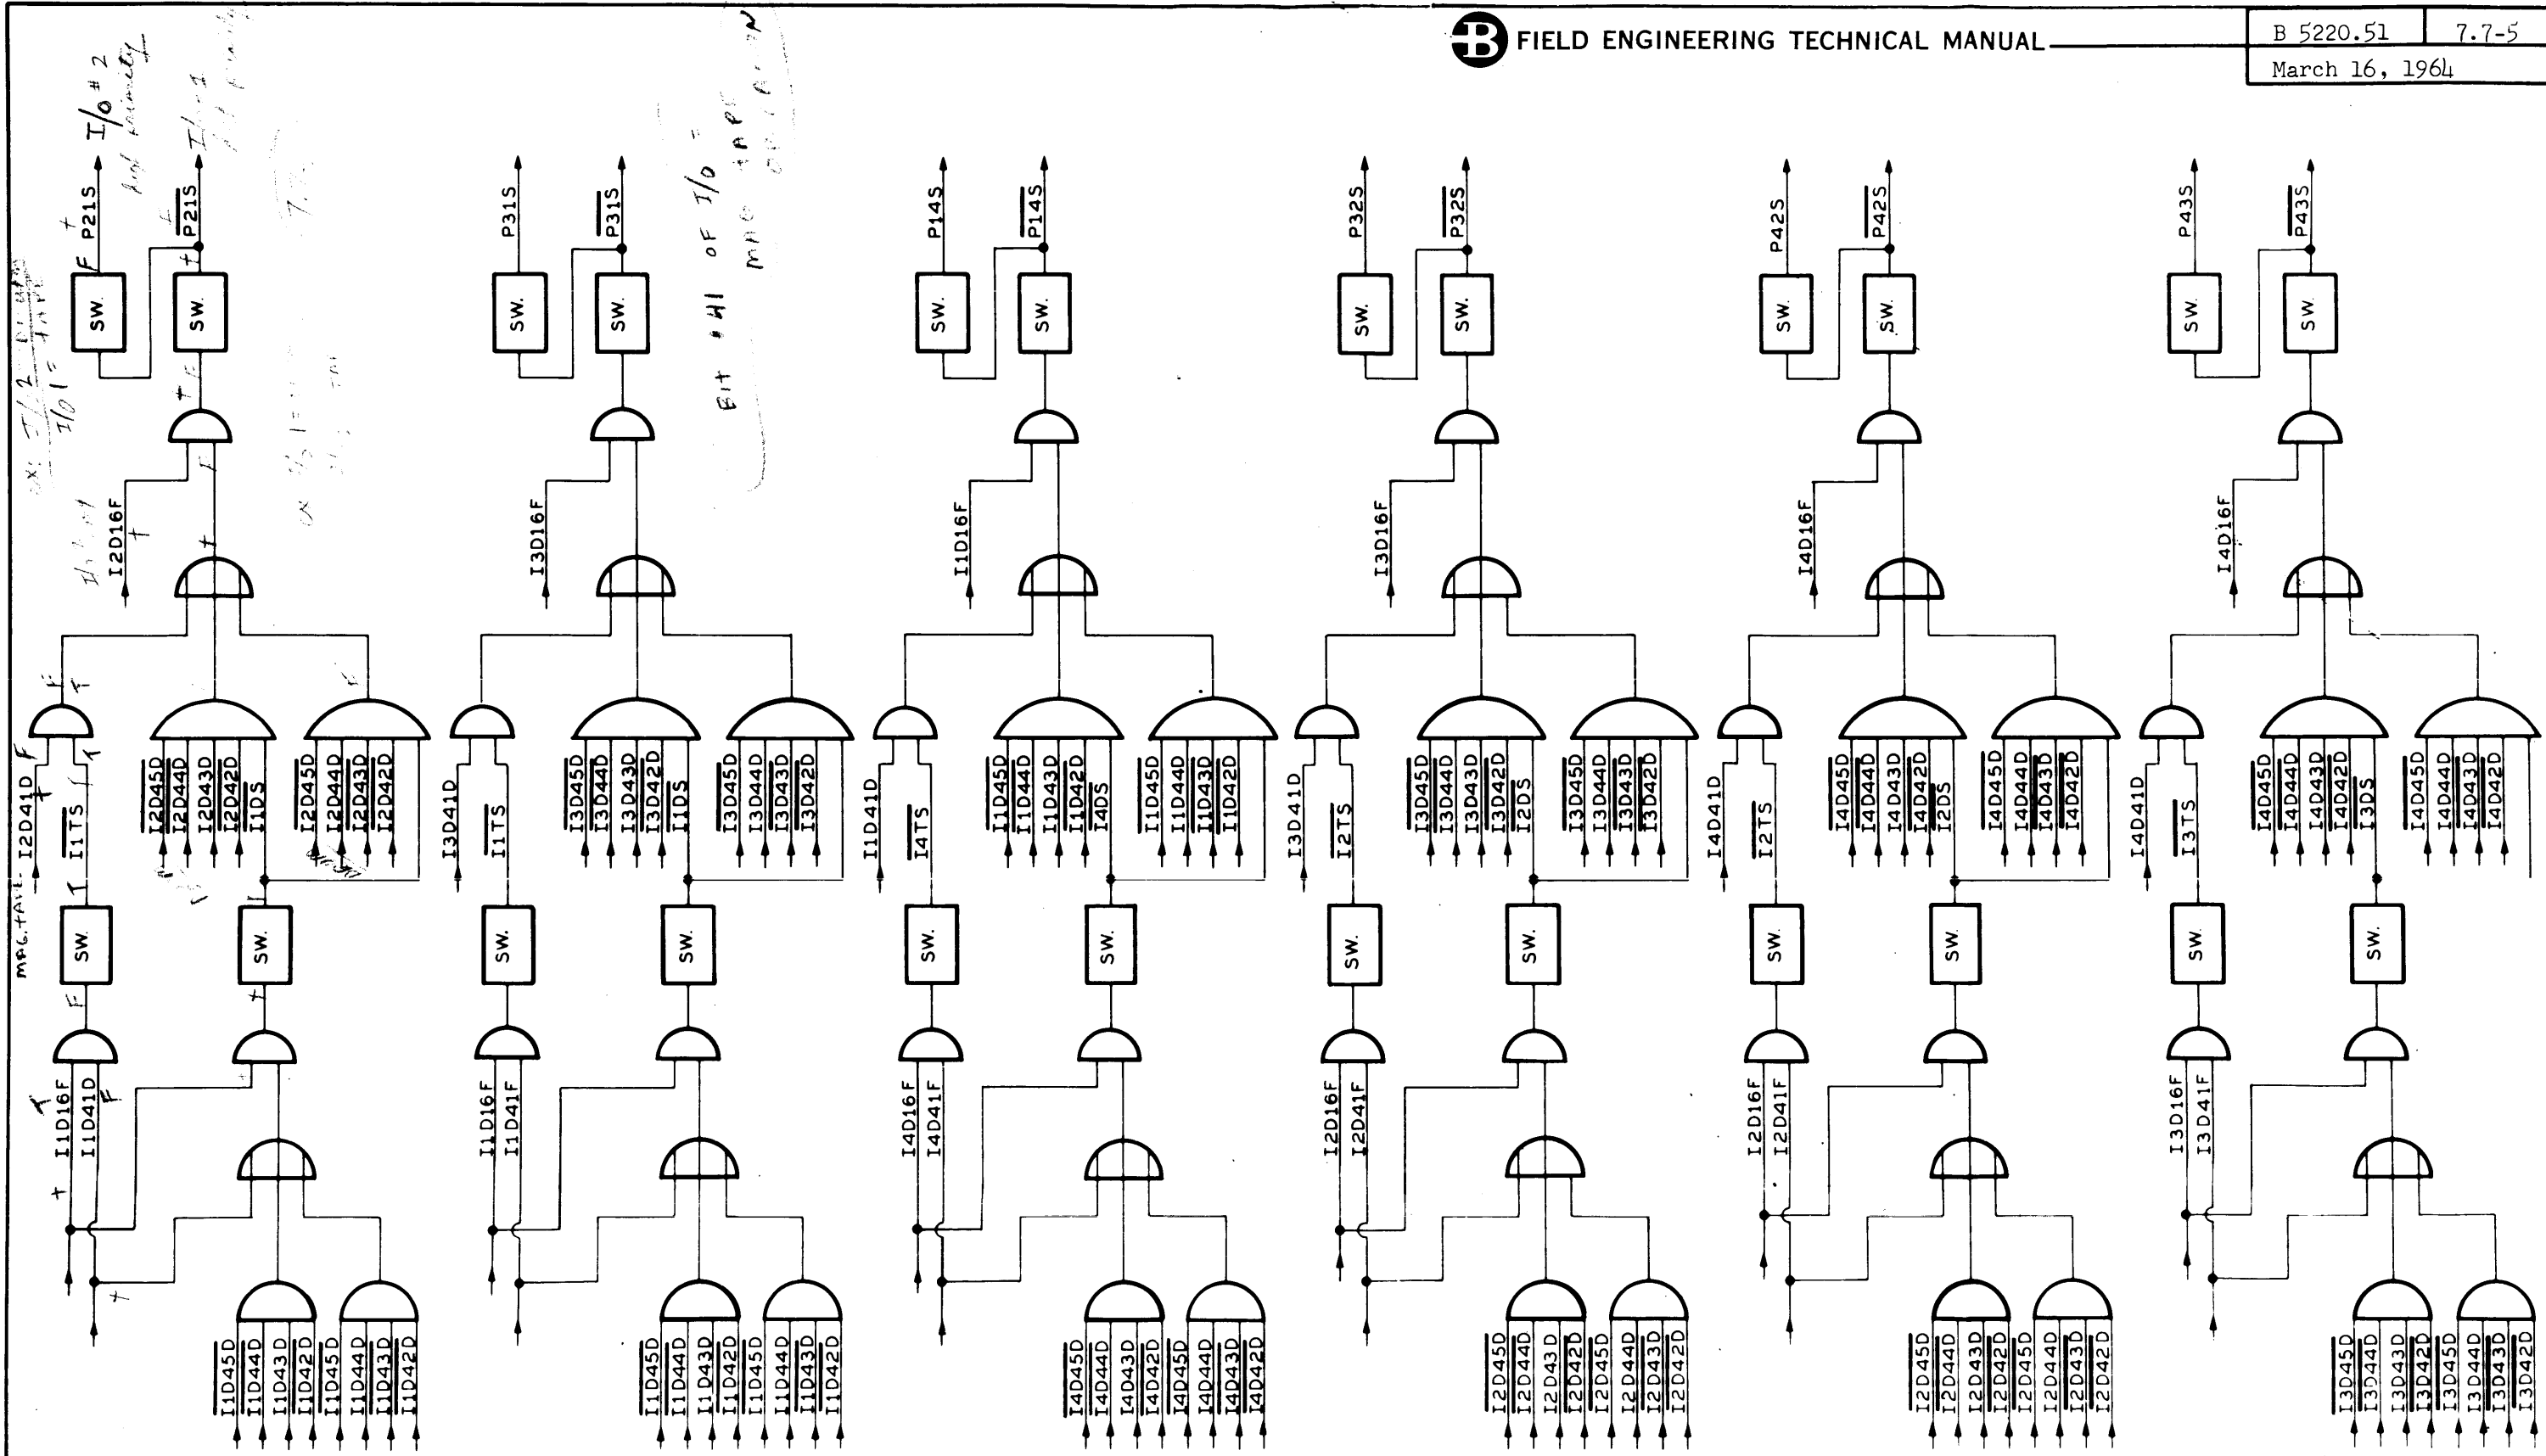

FIGURE 7.7-2
There are three (3) levels of I/O priority considered in this section. The levels of priority are dictated by the information transfer rates of the Peripheral Units under control of the individual I/O Control Units. Figure 7.7-2 along with the following text will explain this determination.